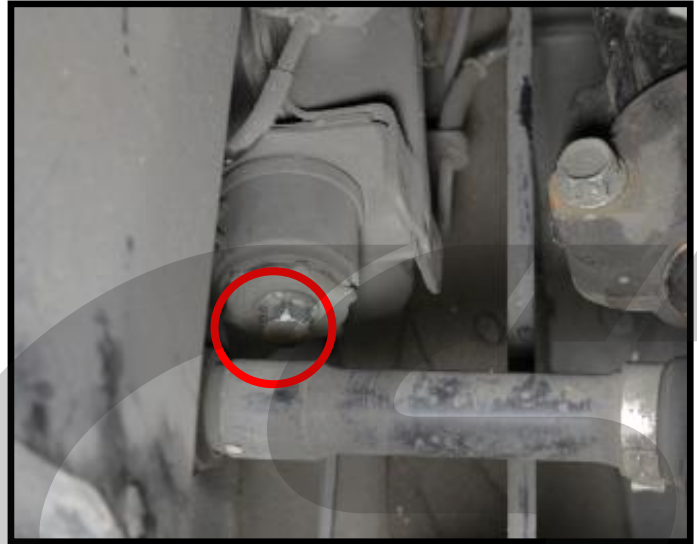

Figure 3e
h) Install the two (2) 17mm bolts that hold the front of the subframe. **Figure 3e** shows the front passenger bolt **circled in red**. Hand tighten the bolts.